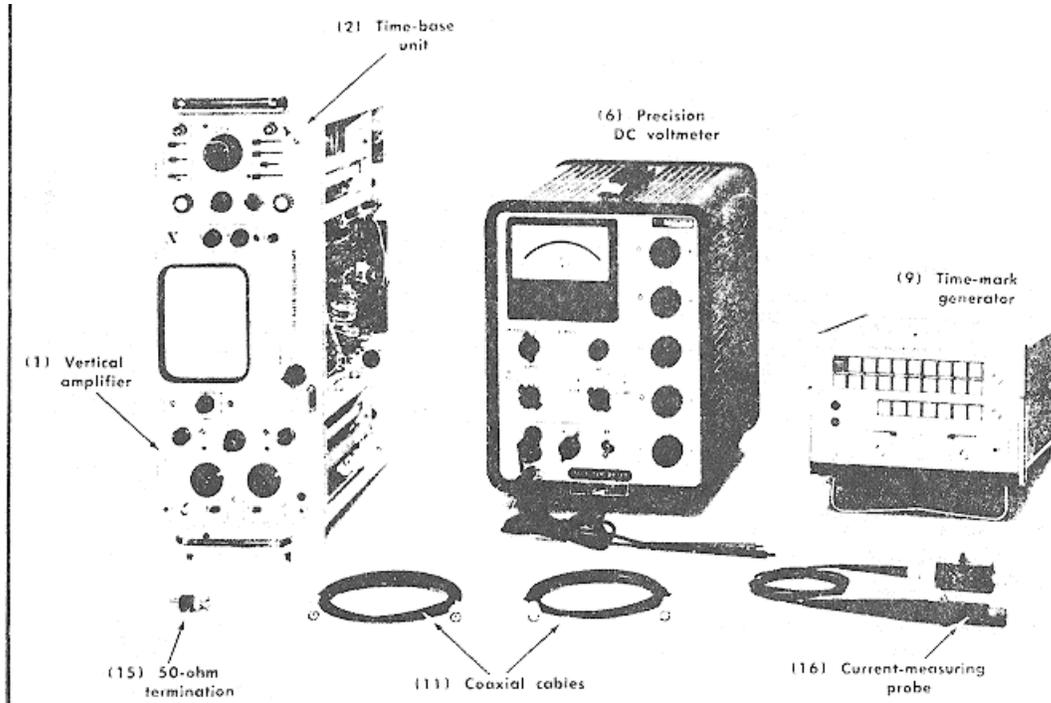

Fig 5-15. Test equipment required for steps 18 through 22.
a. Test equipment required for steps 18 through 22 is shown in Fig. 5-15. The illustrated equipment is keyed to that listed under Test Equipment Required.